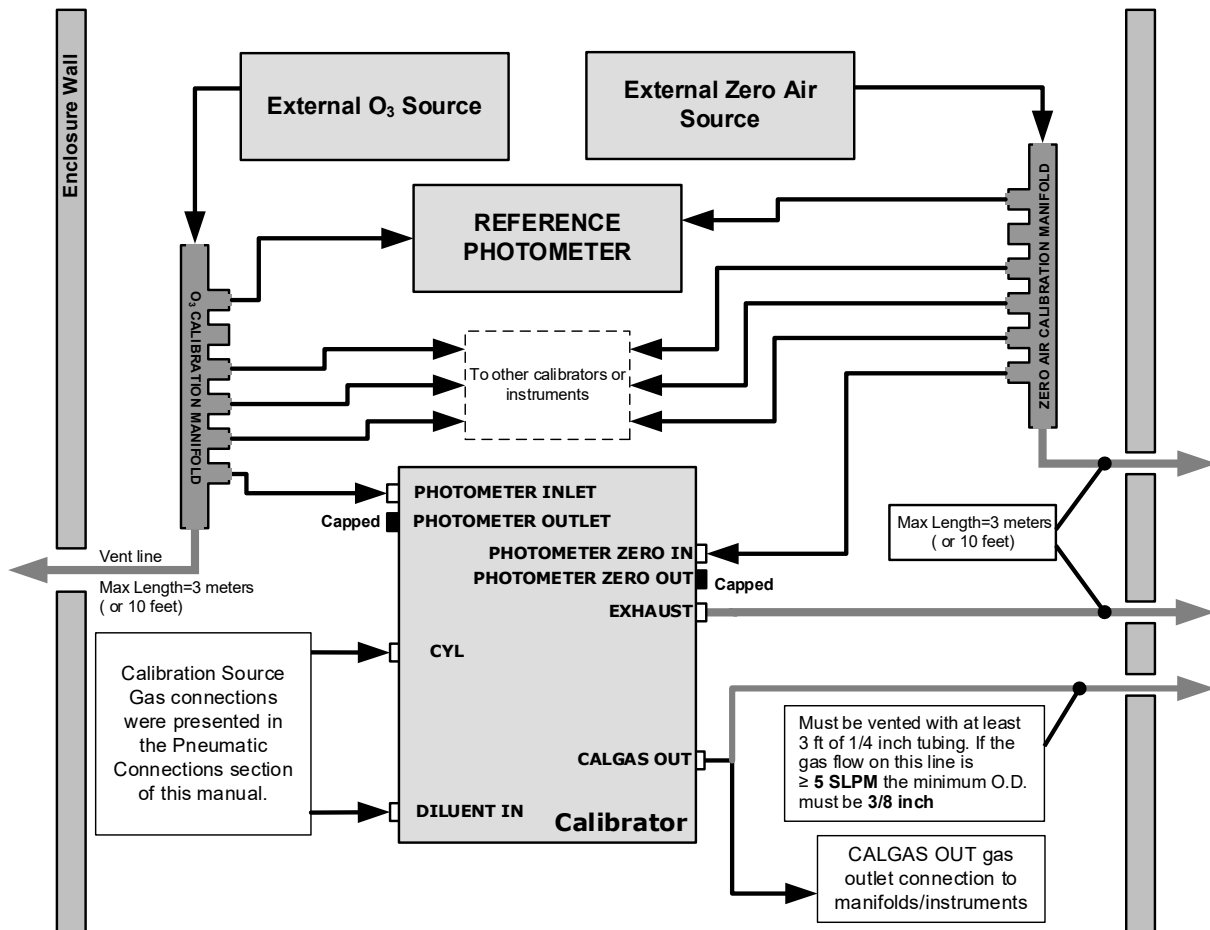

Figure 6-6. External Photometer Calibration Setup with Calibration Manifolds
- Figure 6-6 shows the external zero air and O₃ sources as well as the reference photometer connected to the calibrator via calibration manifolds for both zero air and O₃.